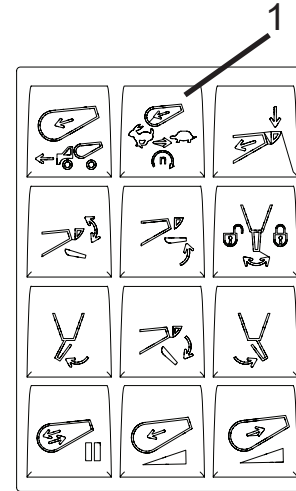

Figure 43
2. Press the MIX button on the optional in-cab keypad (Figure 43, Item 1). The button indicator will illuminate. The MIX icon will display on the drum control on the touch screen monitor.